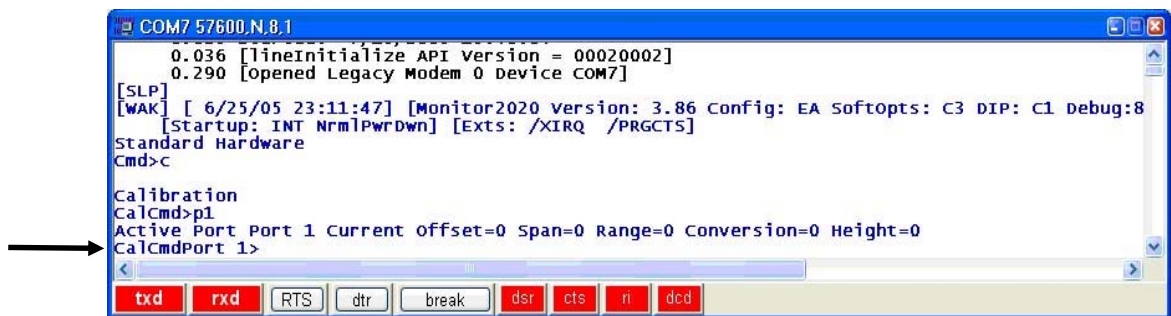

Fig. 9.3: Active Port Current Reading
- 9.2.6 At the calibration command (**CalCmd>**) prompt, type the number of the port you wish to calibrate (i.e. p1, p2, p3 or p4). For this example, we will use **p1**. Data for the active port will display. Fig. 9.3